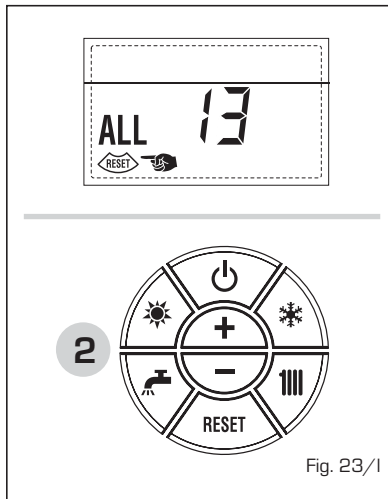

Fig. 23/l
- **ANOMALÍA SONDA HUMOS "ALL 14" (fig. 23/m)**